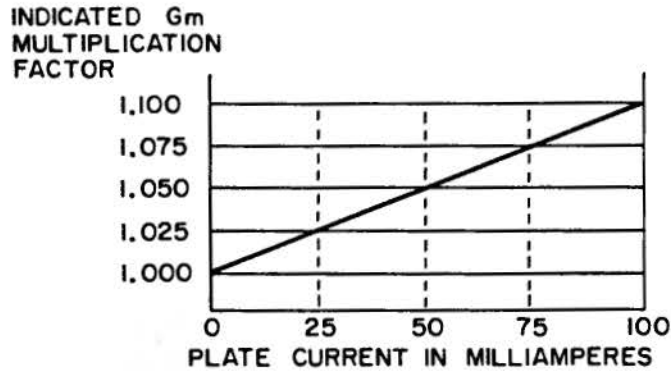

Figure 5B. Gm Correction Factor Chart
4. 24 Accuracy. This tester is capable of measuring mutual conductance of receiving type electron tubes to within a basic tolerance of 3 percent. Due to the inherent linear decrease in the mutual conductance reading as plate current increases, the correction factor listed in Figure 5B should be applied to maintain the 3 percent tolerance on Gm.